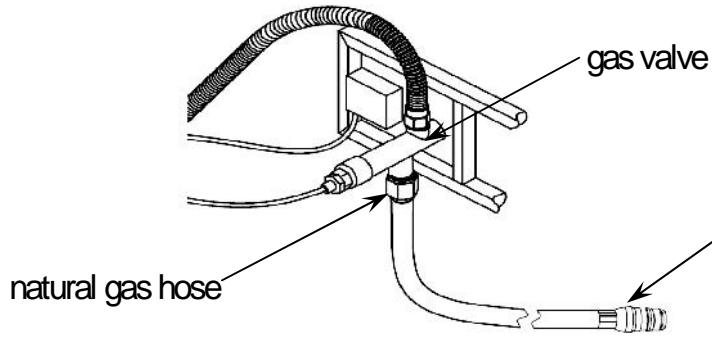
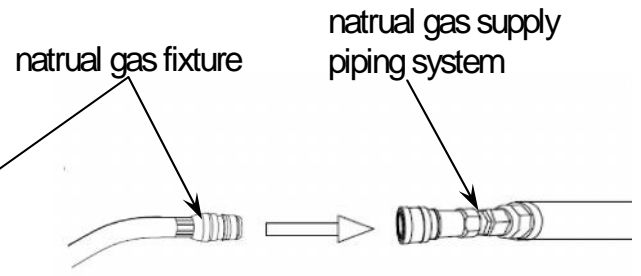

Figure 9
Figure 10
4. Connect the natural gas hose with the gas valve by screwing clockwise tightly, see Figure 9. Plug the natural gas fixture into the natural gas supply piping system, see Figure 10.